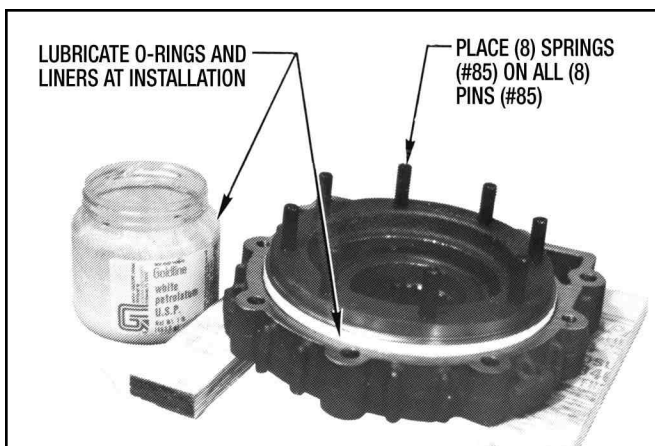

Figure 9.13 - Piston Housing Subassembly
Lubricate the liners with white Petrolatum (USP), or equivalent, before installation. Use care when installing mating parts not to cut or damage the Piston Liners, (See Figure 9.13.)
5. Place (8) Springs (#83) on the (8) Pins (#85). (See Figure 9.13)